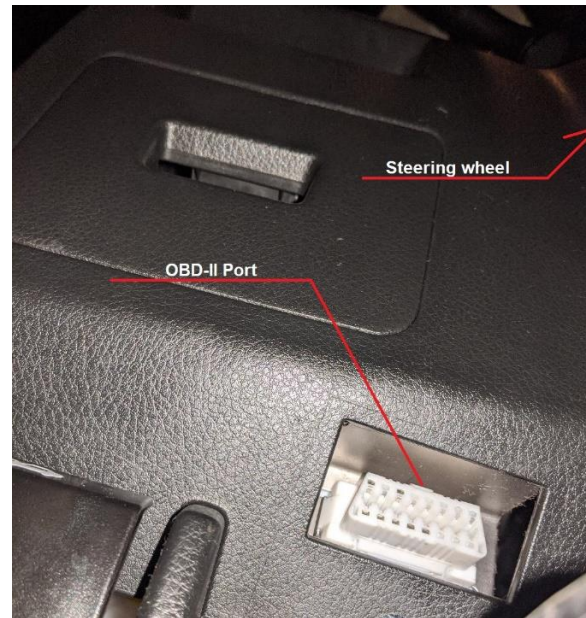

Figure 1. The OBD-II port location in a 2008 Nissan Altima.
1. With the vehicle turned off, locate the OBD-II port. The port is usually located somewhere below the steering wheel as seen in Figure 1.